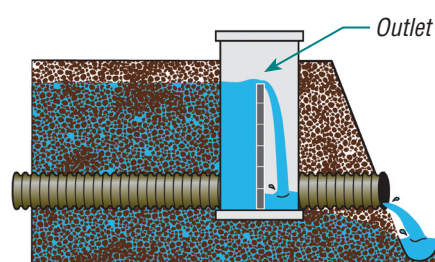

Figure 1. The outlet is raised after harvest to reduce nitrate delivery.
- Raised after harvest to limit drainage outflow and reduce the delivery of nitrate to ditches and streams during the off-season. (Figure 1)